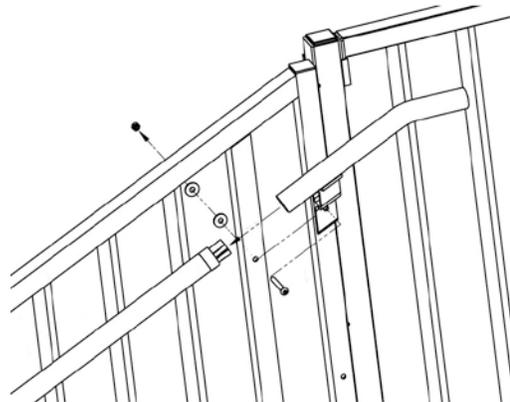

FIG. 19
- 4.5 Slide the "long" end of the top transition bend over the end of the joiner installed in the previous step until the hole in the bracket welded to the top transition bend aligns with the corresponding hole in the guard picket (FIG. 19).
- 4.5.1 Install 5/16"-18 x 2-1/2" button head bolt, two washers and nylock nut (place two washers and nylock nut on the outside of the guard) and tighten securely (FIG. 19).